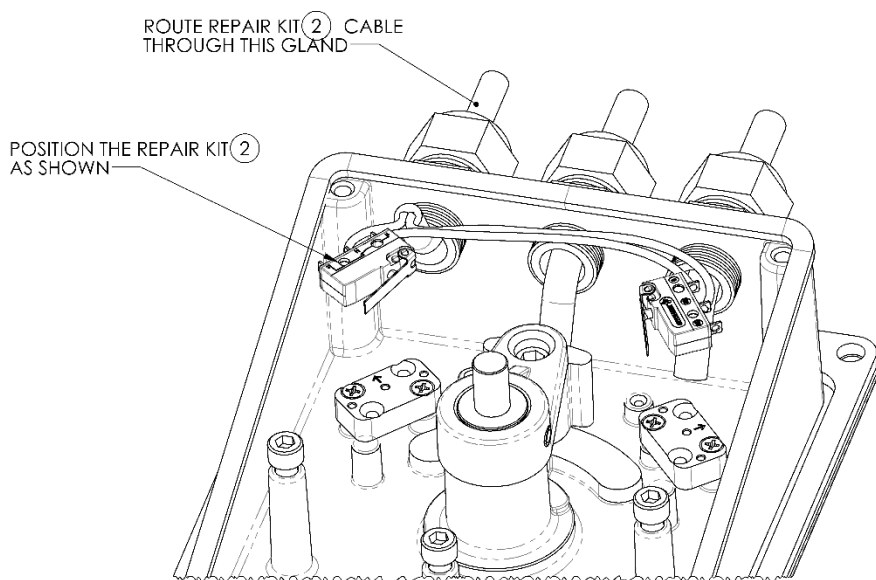

Figure 13: Routing the cable for 7171-RF-01 / 7171-RK-01
11. [2 Microswitch models] Position the microswitch repair kit ② and route the cable through the gland as shown in Figure 13.